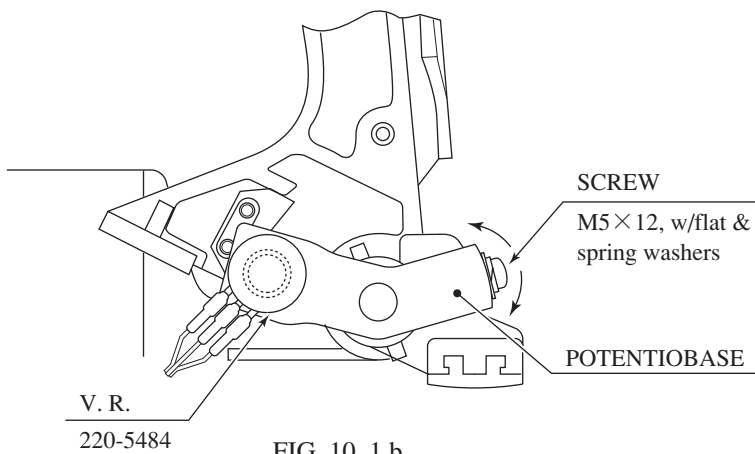

FIG. 10. 1 b
- ① Take out the 2 truss screws and remove the Front Cover from the Accel. & Brake Unit (FIG. 10. 1 a).
- ② Loosen the screw which secure the Potentiobase, and adjust the Volume value by moving the Base. (FIG. 10. 1 b)
- ③ Secure the Potentiobase.
- ④ Perform volume setting in the volume setting mode.